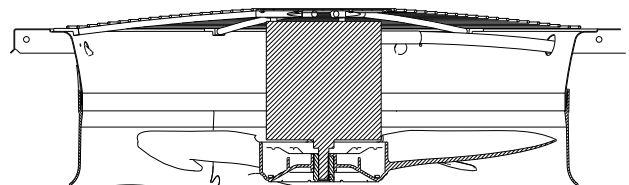

Fig. 37 — Condenser Fan Adjustment
2. Remove condenser-fan assembly (grille, motor, and fan). (See Fig. 37.)